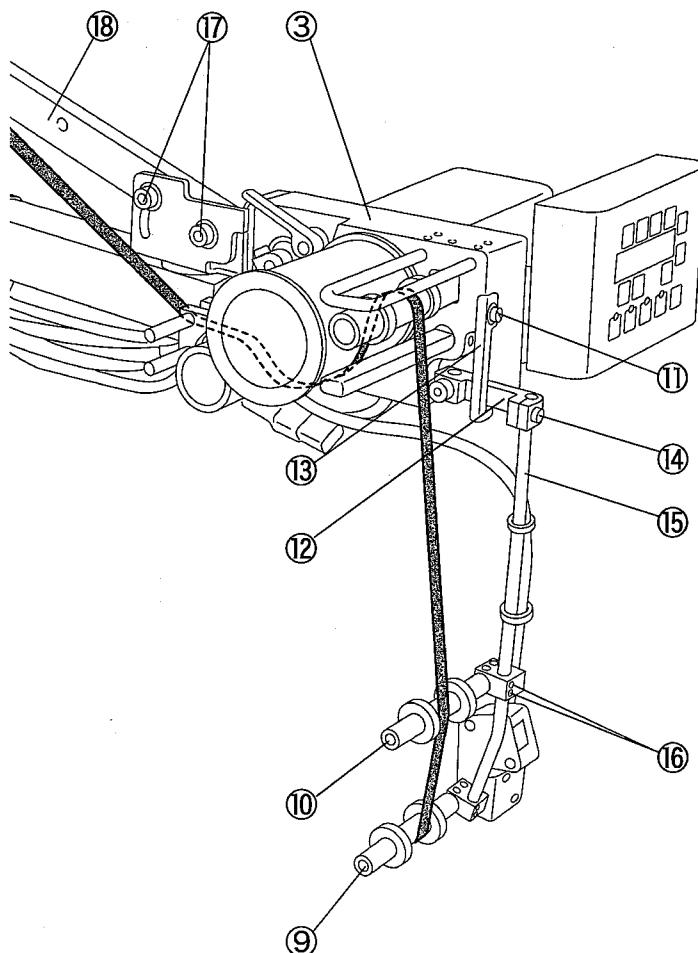

Fig. 2-21
3. Adjust the position of guide rollers⑨⑩ to where the tape can be supplied to the presser foot smoothly and do not let the guide rollers obstruct sewing operation. (Fig. 2-21)